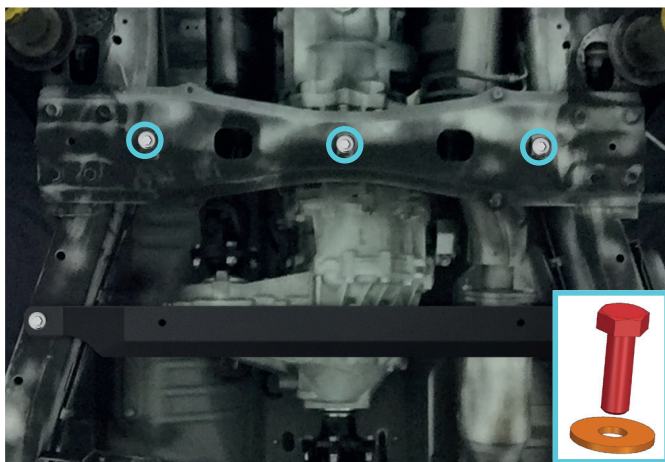

Fig. 2.1
**2.1 If RIVAL transmission skid plate NOT installed:** Loosely insert supplied bolts M8x1.25x25 (item A) with washers M8 (item B) as shown in fig. 2.1.